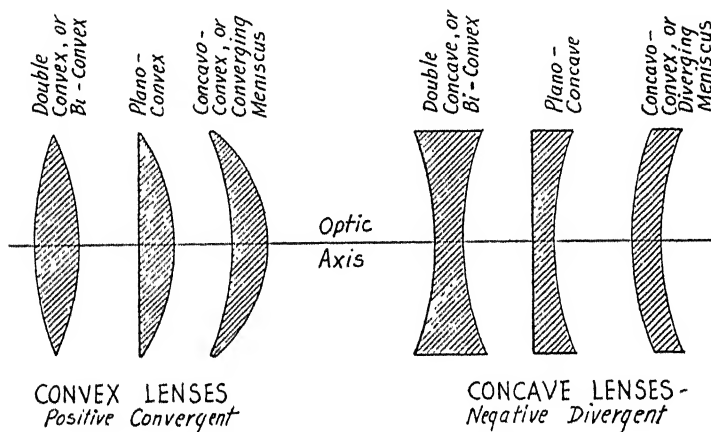

FIG. 15.—THE SHAPES OF LENSES
The Shapes of Simple Lenses.—Lenses have two fundamental shapes and these are (1) convex, or positive convergent, and (2) concave, or negative divergent. Names of the *convex* or *positive convergent* lenses are (a) the double convex or biconvex, (b) the plano-convex, and (c) the concavo-convex, converging or positive meniscus¹ lens; while the *concave* or *negative divergent* lenses are (a) the double concave or biconcave, (b) the plano-concave and (c) the concavo-concave, diverging or negative meniscus lens, and these are all shown in Fig. 15.